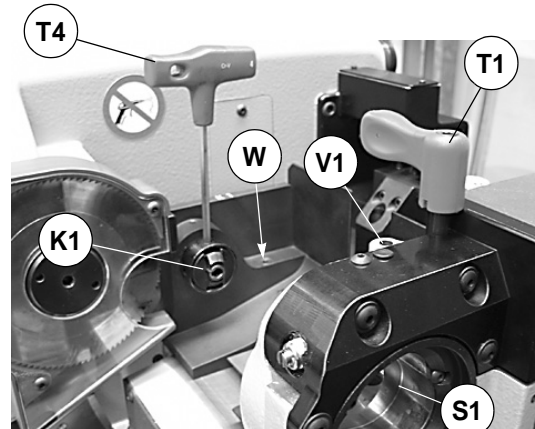

Fig. 59
Note: before starting any operation for keys with rear stops the K1 tailstock must be removed. Simply loosen the screw (W) with the wrench (T4) (fig. 59) and push the K1 tailstock to the left in order to remove it from its seat.